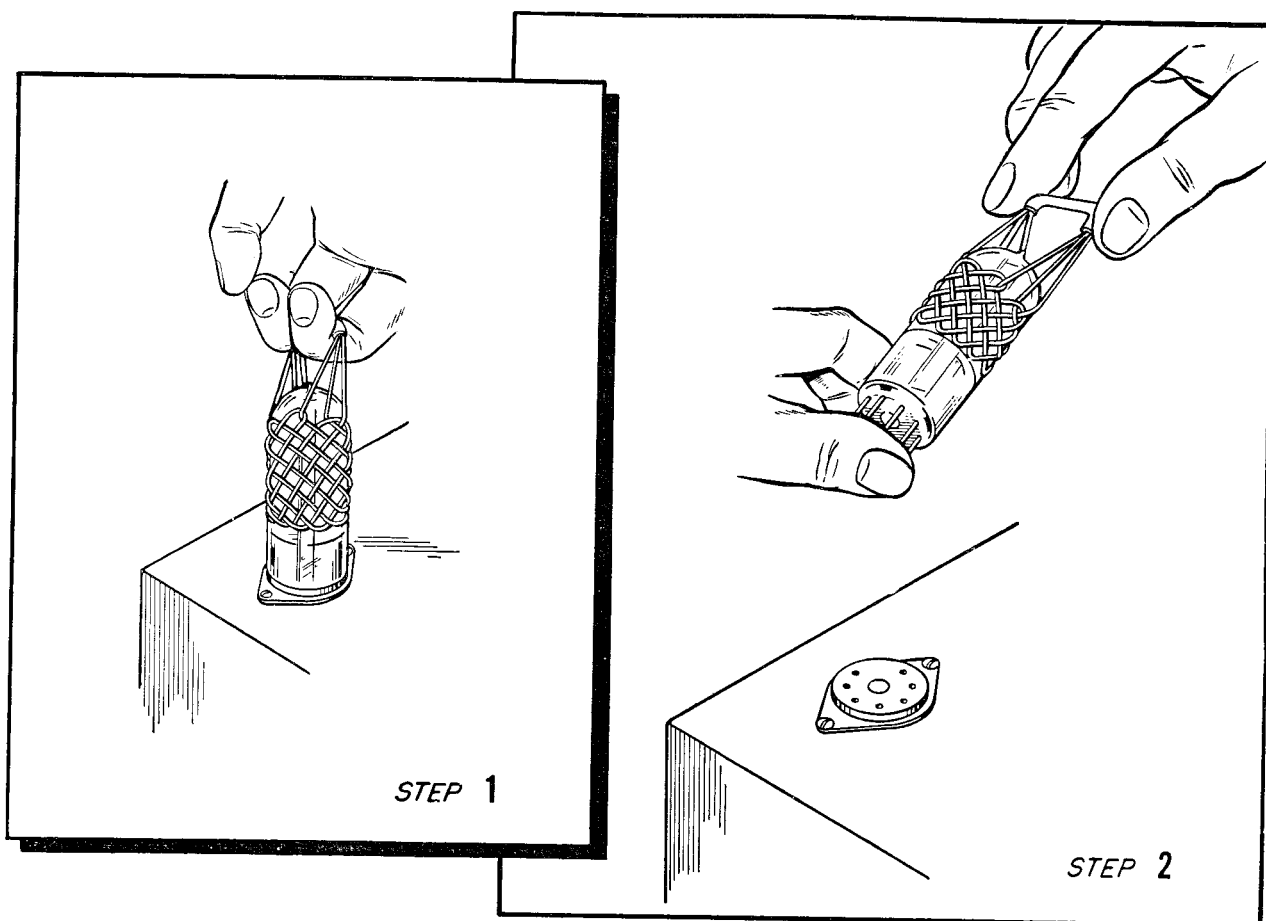

Figure 15. Radio Set AN/GRR-5, method of using tube puller.
a. Tube Puller. When it is necessary to remove a tube, remove the tube puller from the cover. Place the tube puller over the tube to be removed. Press tool down firmly over the tube until the wire mesh locks on the envelope. Pull tube and tool upward while wobbling the tube around in the socket. After the tube has been removed from the chassis, remove the tube from the tool by pushing the tube toward the handle (fig. 15).